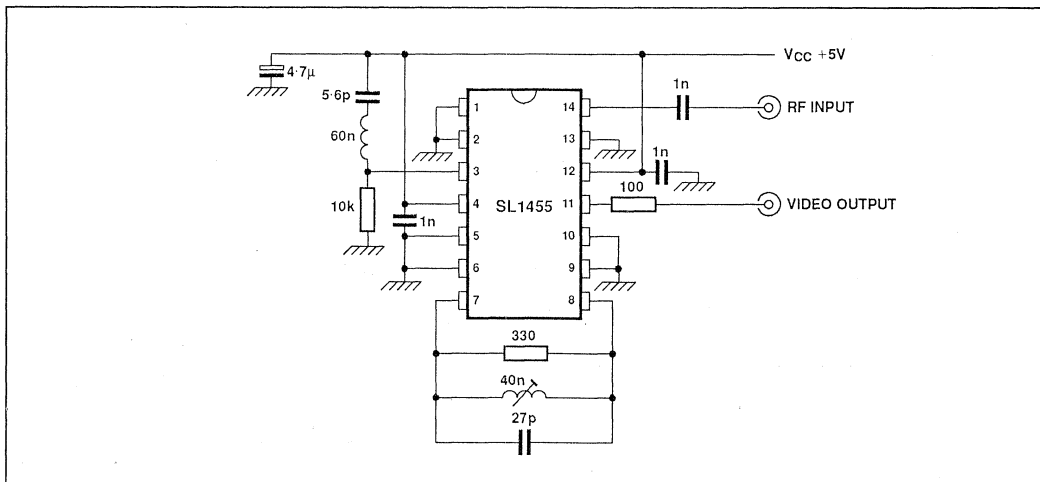

Fig. 3 Typical application: 612MHz threshold extended demodulator
- All characteristics from Noise Threshold to Video Bandwidth are measured using the application circuit Fig. 3.